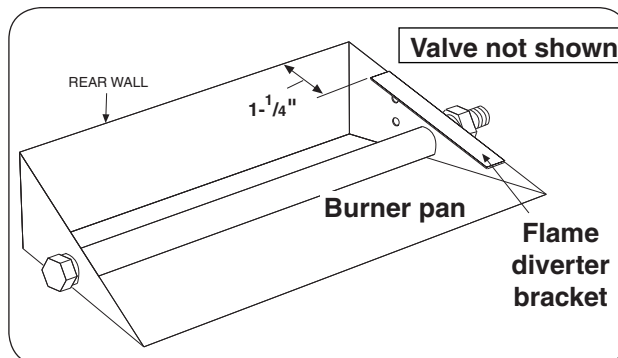

Fig. 6-1 Install diverter bracket (if applicable)
1. Place the flame diverter bracket over the rear edge of the burner pan, near the location the safety control system pilot bracket will be attached. It should be placed **approximately 1-1/4"** from the side wall of the burner pan (see Fig. 6-1).